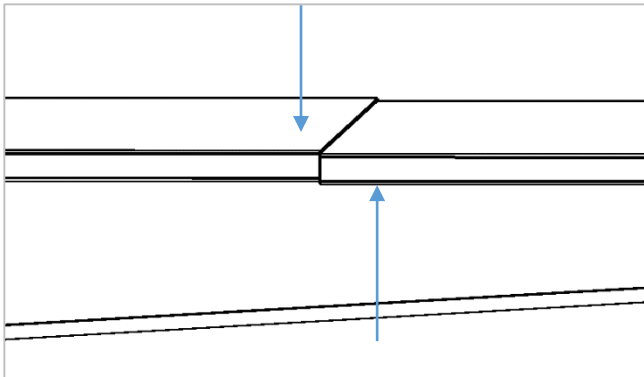

Figure 1.5
- If the surface is level and the seam does not align between pieces, lightly push and pull on two pieces of the conference top as shown in Figure 1.5 to align the seam. Once the seam is in the correct position, tighten down the tight joint closest to that edge of the table with a ratchet. This step will require 2 people, one to hold the table in place, and one to tighten the tight joint connector.